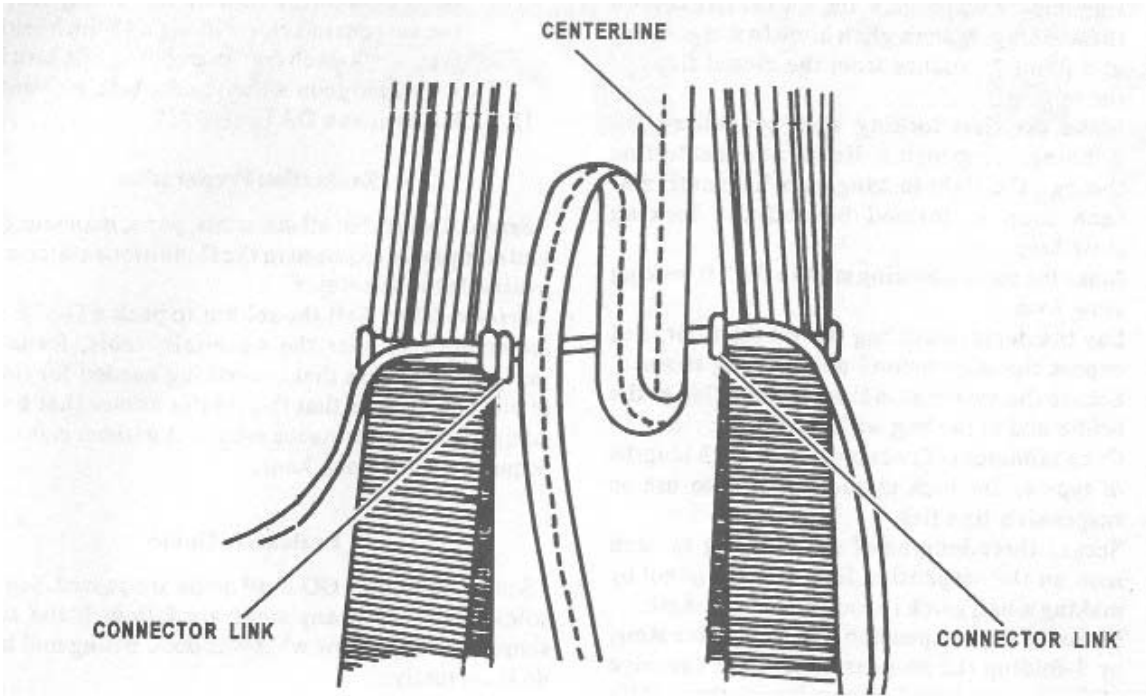

Figure 3-34
7. Tie the connector link assemblies. (See Figures 3-34 and 3-35)